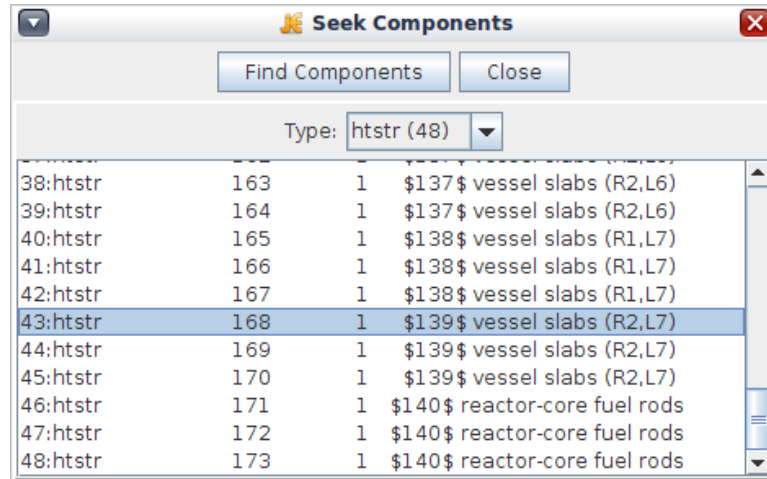

Figure 7.2. *The Seek Components Dialog*
- **Seek Components** - The Seek Components dialog (shown in Figure 7.2, “The Seek Components Dialog”) is used to locate components within the input deck. The type drop-down contains a list of component types found in the model along with the number of each type located in parentheses. The components for the selected type are displayed in the list. Selecting a component in the list will result in that component being scrolled into view. The Seek Components dialog currently supports the TRACE and RELAP5 analysis codes.